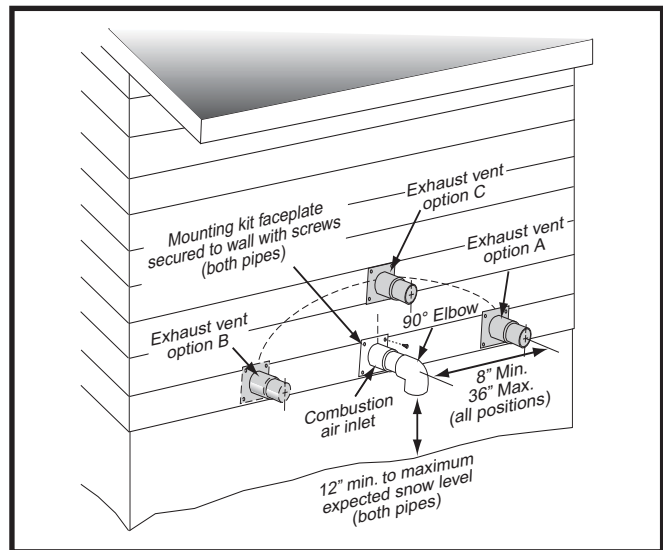
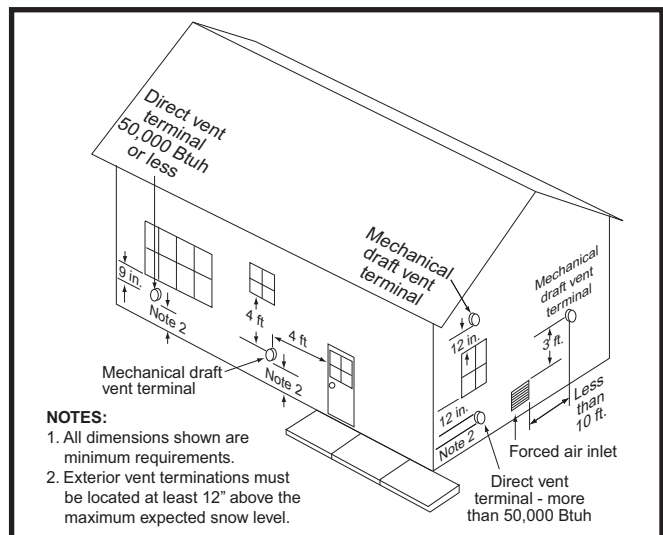
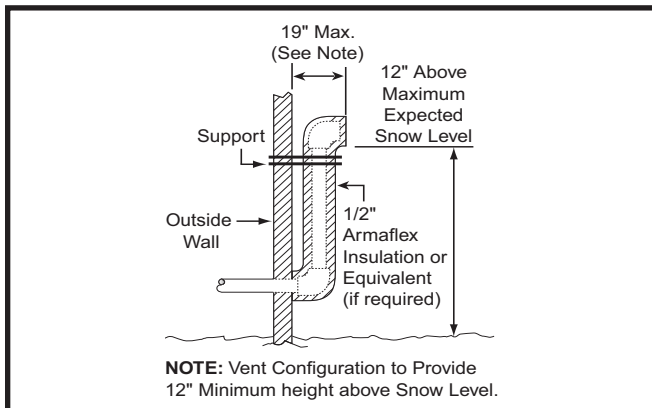

Figure 7. Inlet & Exhaust Pipe Clearances
Figure 8. Vent Locations
Figure 9. Alternate Horizontal Vent Installation
- Vent and combustion air intake terminations shall be installed as shown in Figure 7 & Figure 8 and in accordance with these instructions:
- All minimum clearances must be maintained to protect building materials from degradation by flue gases. See (Figure 8).
- When the vent pipe must exit an exterior wall close to the grade or expected snow level where it is not possible to obtain clearances shown in Figure 7, a riser may be provided as shown in Figure 9. Insulation is required to prevent freezing of this section of pipe. See Table 3 (page 17) for vent freezing protection.